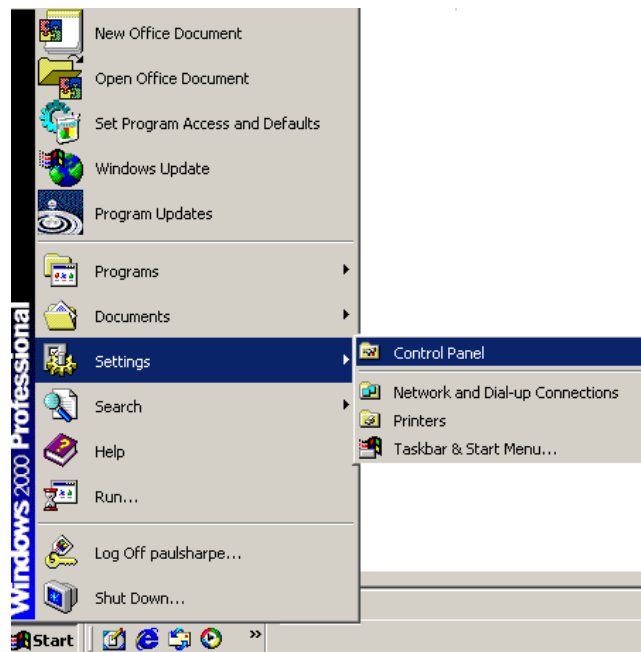

Figure 7-15: Access Windows Control Panel
Step 30: Open **Windows Control Panel** (**Figure 7-15**).